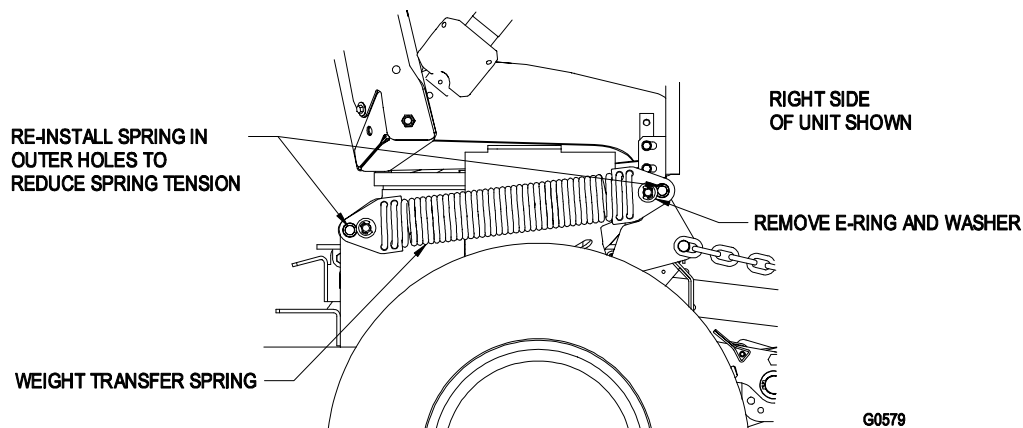

FIGURE 12
- e) Remove the retaining ring and washer at either end of the weight transfer spring that retains it to the transfer bellcrank pins and/or weight transfer spring anchor pins. See Figure 12.